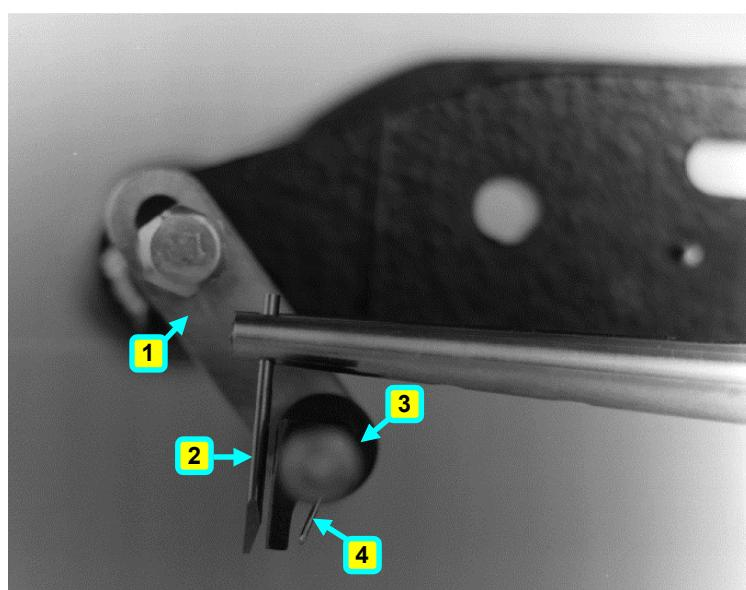

Figure 9-9: Wire Clamp Position Adjustment
- 2 Loosen the set screw that faces you (see Figure 9-9). Adjust the clamp's lateral position by turning the knurled adjusting nut so that the wire is centered under the wedge foot.